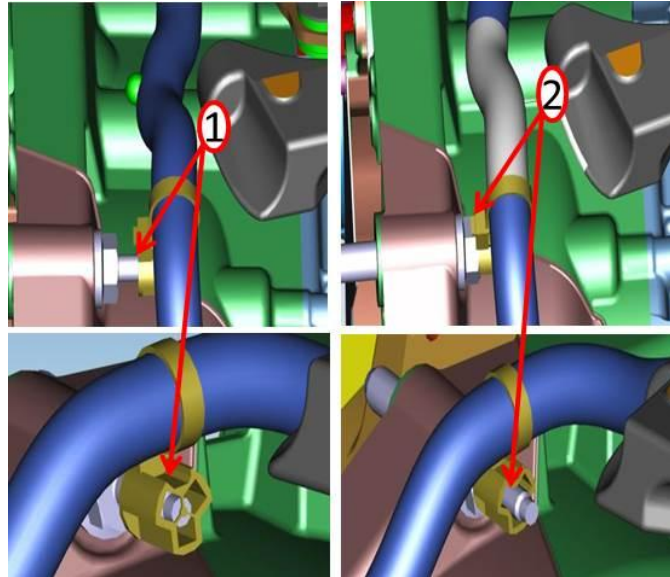
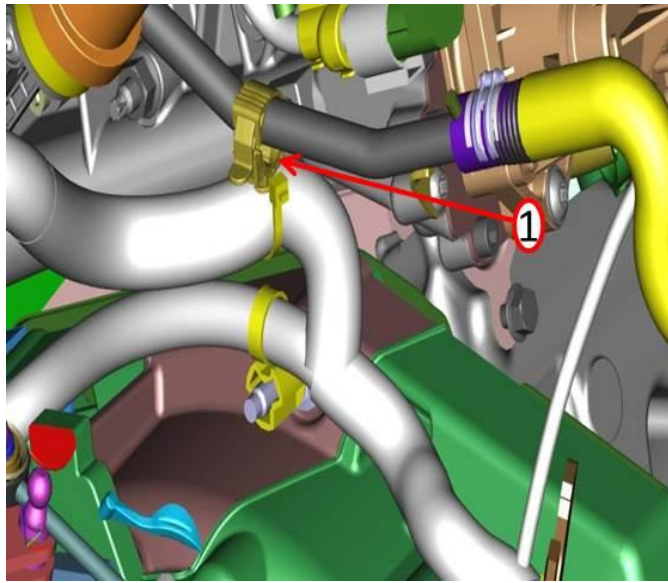

Fig. 1 Clip Location
Fig. 2 Locking C clip
1. Inspect the existing clip to be fully seated. The existing clip has a stop/cap that currently keeps clip at top of stud. This clip must be pushed in completely further onto the stud past the stop/cap. This can be attained by little force to break the stop/cap plastic stop (Fig. 1) & make sure the locking C clip is secured (Fig. 2).